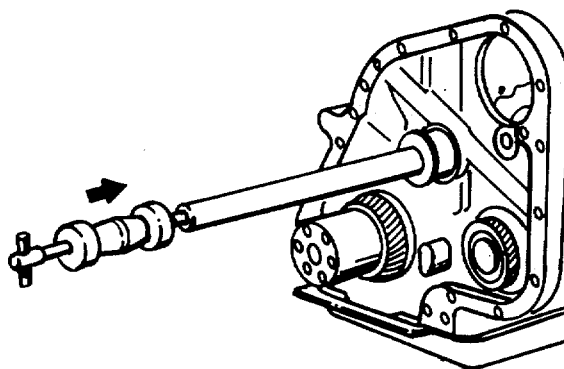

FIGURE 4-92. Using Installation Tool.
- h. Using a universal bushing installation tool, install the cam bushing flush with the block. (FIGURE 4-92)